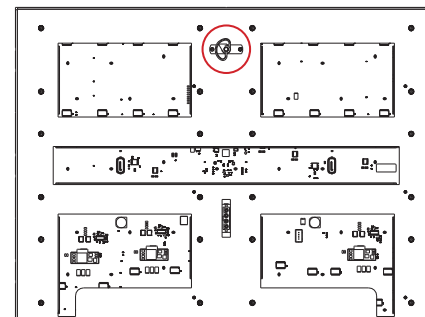

Figure 28: Module Rear
2. Turn the top spring latch a 3/4 turn counterclockwise with a small flathead screwdriver. Refer to **Figure 28**.